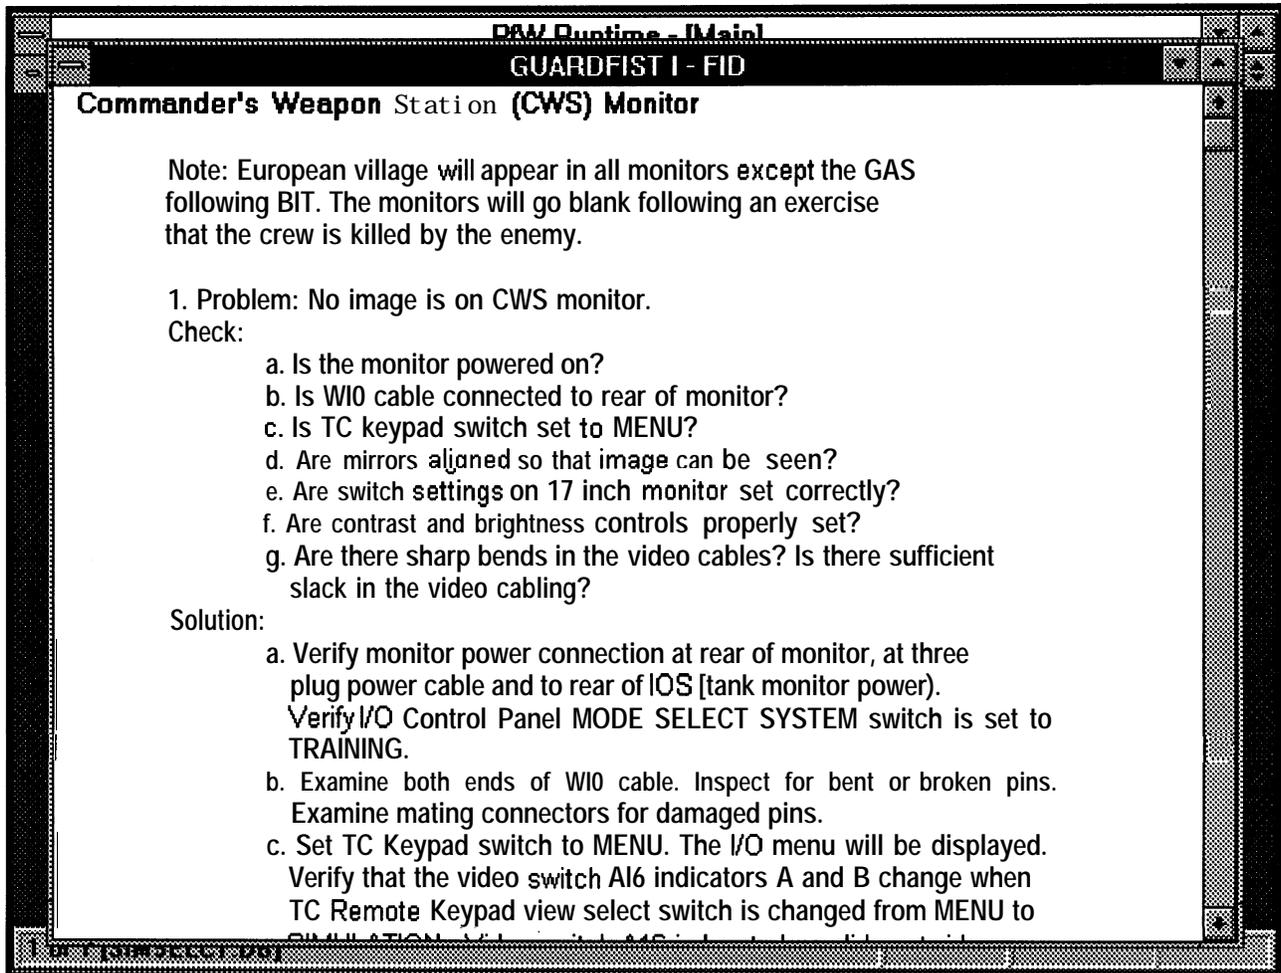

Figure 3-26. Commander's Weapon Station (CWS) Monitor Screen
- b. Highlight or type the first few letters of a topic that best describes or defines the component with the malfunction and click on the display button The FID screen for that component displays with troubleshooting procedures for the selected component. (Refer to Figure 3-26 for a representative of a FID component screen)